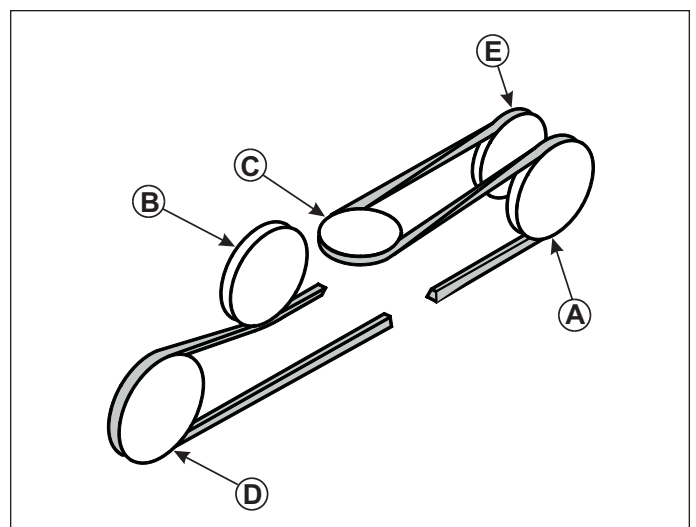

Figure 16. Belt Installation Diagram
- Install the drive belt onto the snow thrower drive pulley (D, Figure 16) and then onto the tractor PTO (C). See Belt Installation Diagram (Figure 16)